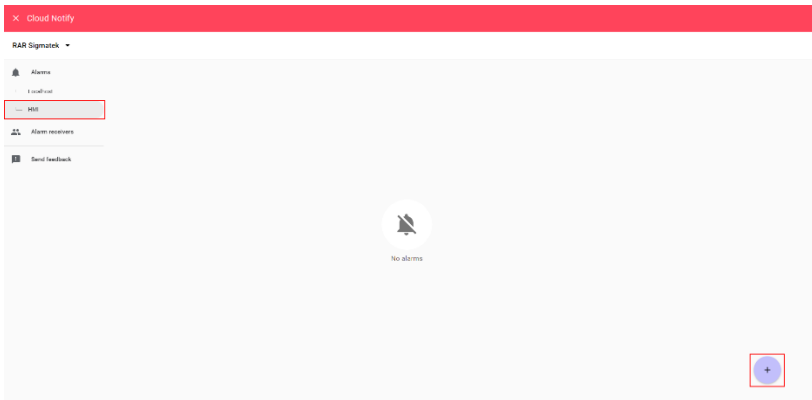

Figure 5.93 Add tags using the Cloud Notify interface.
- a. From the Cloud Notify interface, click the “+” button (Figure 5.93).